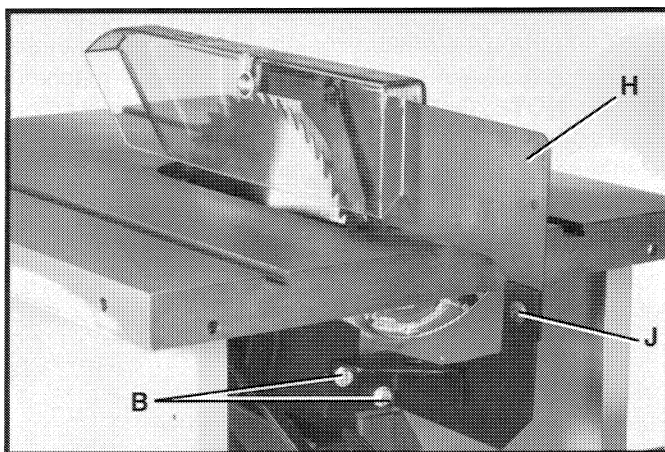
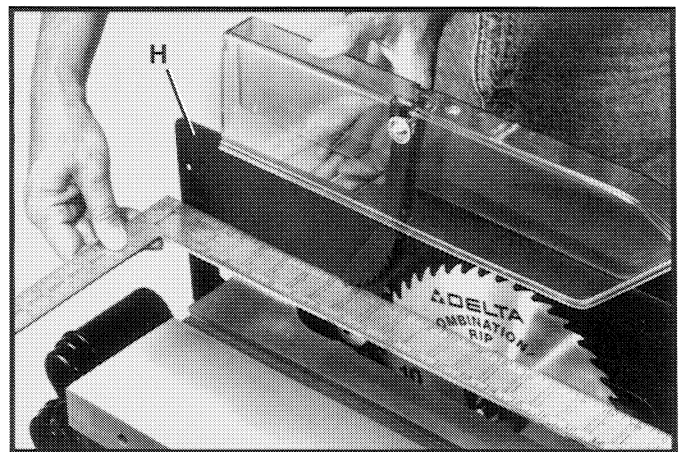

Fig. 24
Fig. 25
5. Using a straight edge, check to see if the saw blade is aligned with the rear of the splitter (H), as shown in Fig. 25. If an adjustment is necessary, loosen two screws (B) Fig. 24, align splitter (H) with the saw blade and tighten two screws (B).